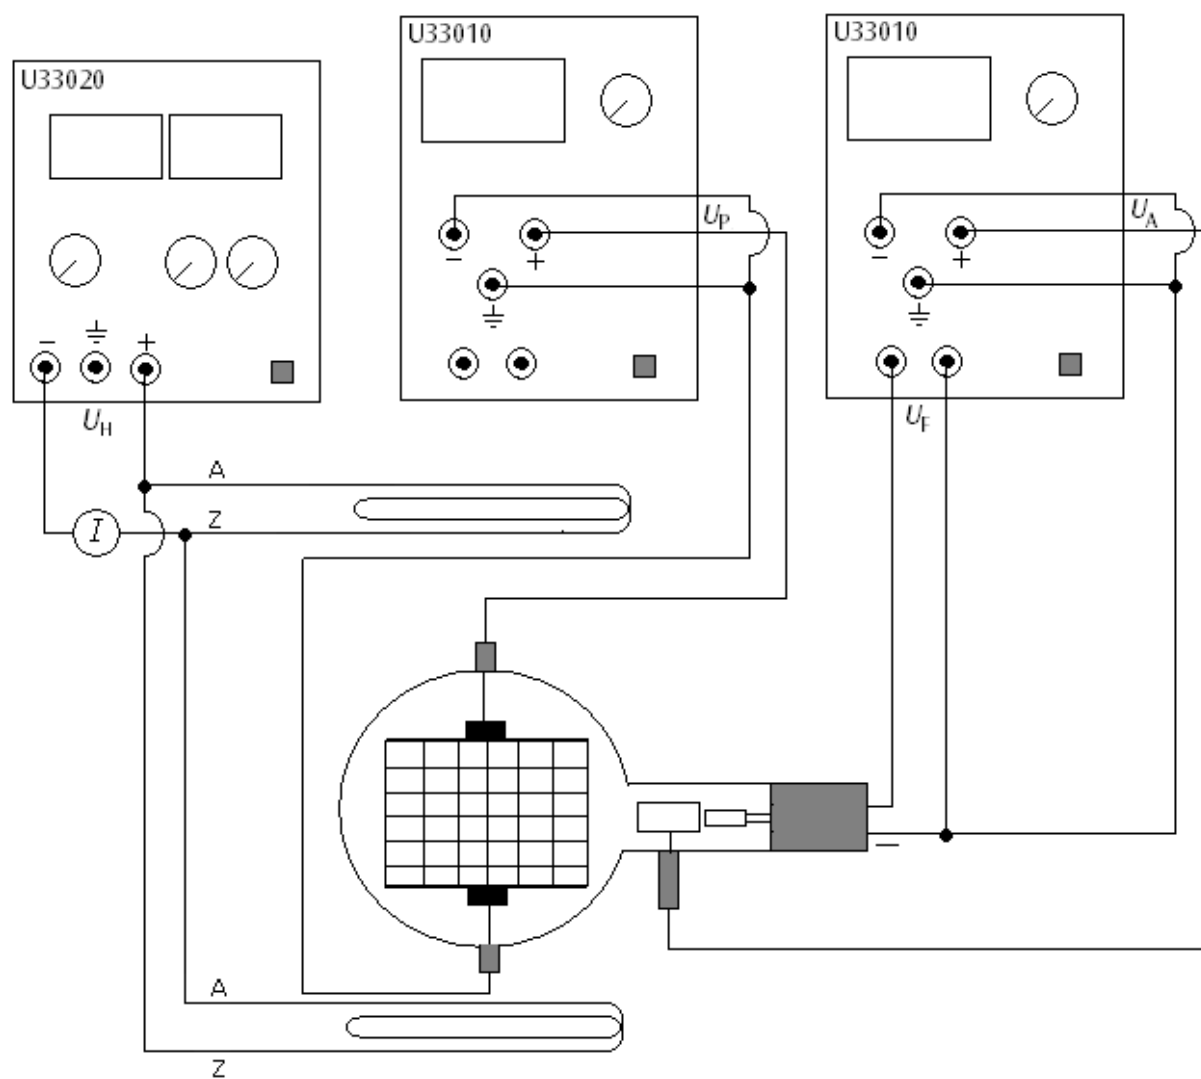

Fig. 4 Calculating e/m by means of field compensation
- Set up the experiment as in Fig 4.